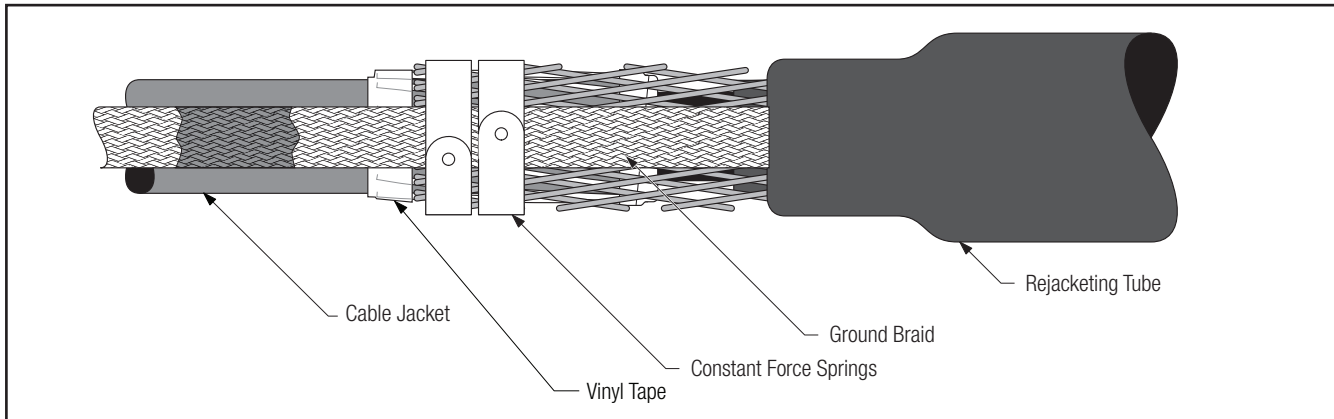

Figure 18
- 5.6 Hand-tighten the shield sleeve outward and secure it (along with the ground braid) to the neutral wires on either side of the splice using two constant force springs on each end between the vinyl tape at the jacket edge and the vinyl tape as shown (*Figure 18*).
- 5.7 If shield sleeve extends beyond neutral wires, it may be interwoven with the constant force springs. Trim excess ground braid if needed. Cinch (tighten) the spring after wrapping the final winding (*Figure 18*).